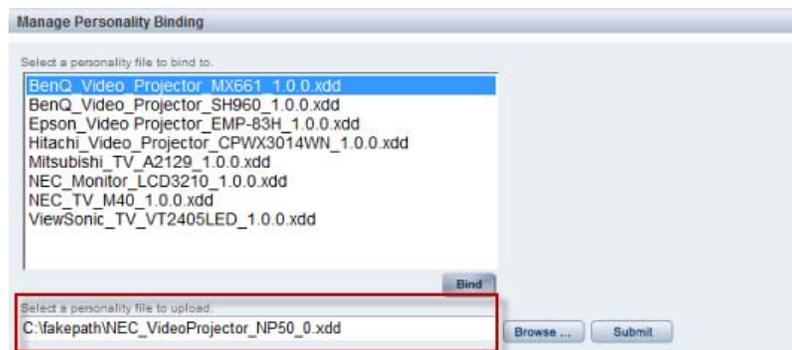

FIG. 118 Device Personality Page - Device Details (fakepath)
2. Select an *.xdd file and click **Open** to close the *Choose File To Upload* dialog. The selected file is indicated in the *Select a personality file to upload* field (FIG. 118):